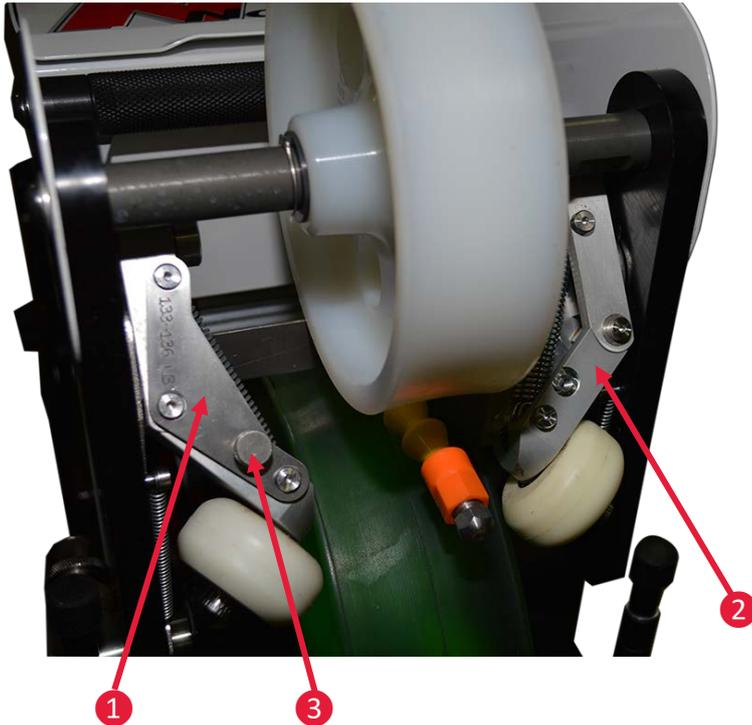
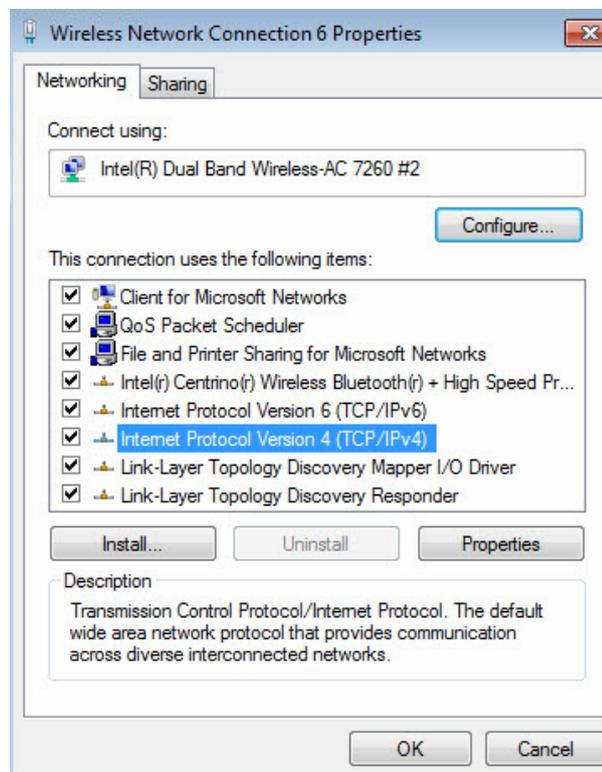

Figure 2: Tank filler.
Figure 3: Windows Network Connection dialog.
3. A dialog like shown in Figure 2 will appear, select the IPv4 item as shown and select Properties to invoke the dialog shown in Figure 3.
4. Set IP address to same settings as shown in Figure 3 above.